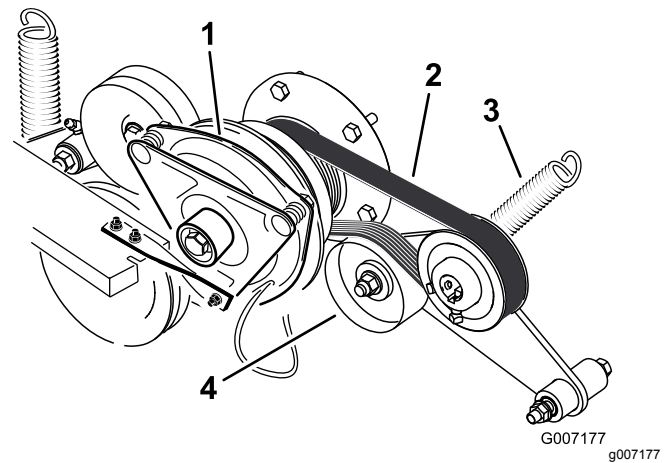

Figure 64
3. Remove the spring from the idler arm (Figure 64).
4. Install the new belt around the engine and hydro pump pulley (Figure 64).
6. Install the spring to the idler arm (Figure 64).